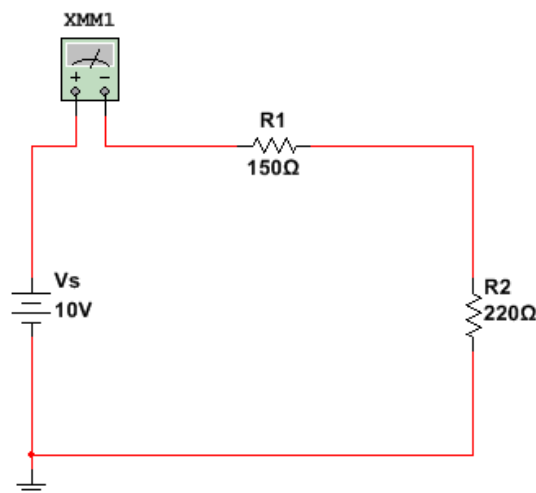

Figure 4.12 – Measuring the current through 150 Ω resistor
- Obtain one multimeter from the instrument toolbar and connect the multimeter in between the break. Check Figure 4.12.